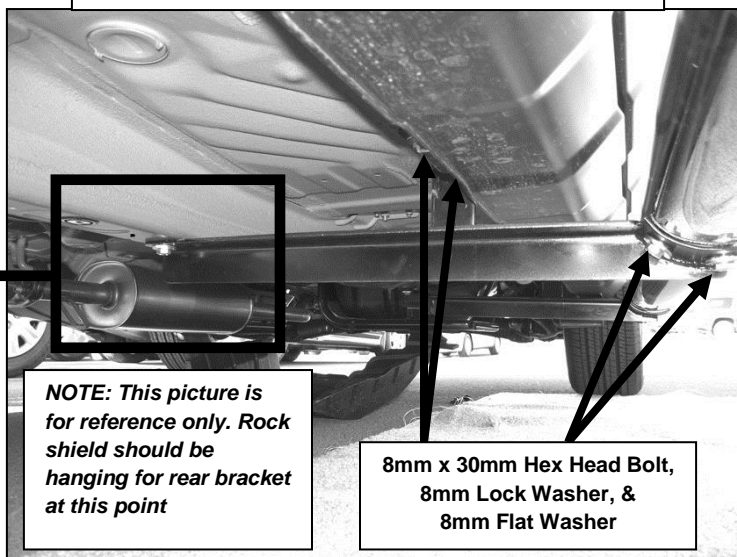
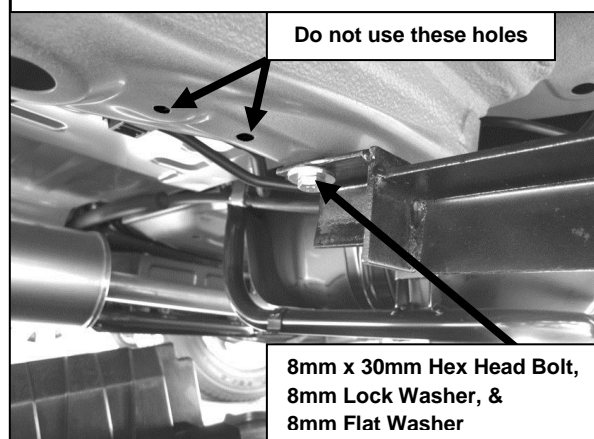

Figure 1
Figure 3
- Hang the inner side of the driver front Mounting Bracket into position by partially threading (1) 8mm x 30mm Hex Head Bolt, (1) 8mm Lock Washer, and (1) 8mm Flat Washer into factory threaded hole on the frame (Figure 1). NOTE: There are two threaded holes by the front mounting location on the frame, use the one towards the rear of vehicle.
- Attach the opposite side of the driver front Mounting Bracket to the threaded holes on the floor panel of the vehicle by partially threading (2) 8mm x 30mm Hex Head Bolts, (2) 8mm Lock Washers, and (2) 8mm Flat Washers (Figure 1).
8. Insert the inner side of driver rear Mounting Bracket through previously cut out hole on the plastic cover. Hang Mounting Bracket by partially threading (1) 8mm x 30mm Hex Head Bolt, (1) 8mm Lock Washer, and (1) 8mm Flat Washer into factory threaded hole on the frame (**Figure 3**). **NOTE:** There are two threaded holes on the frame, use the one towards the rear of vehicle.
9. Attach the opposite side on the driver rear Mounting Bracket by partially threading (2) 8mm x 30mm Hex Head Bolts, (2) 8mm Lock Washers, and (2) 8mm Flat Washers into factory threaded holes on the floor panel.
10. Position Driver Side Bar onto Mounting Brackets. Attach Side Bar to Mounting Brackets using the included (4) 8mm x 30mm Hex Head Bolts, (4) 8mm Lock Washers, and (4) 8mm Flat Washers (**Figure 1**). Do not tighten at this time.